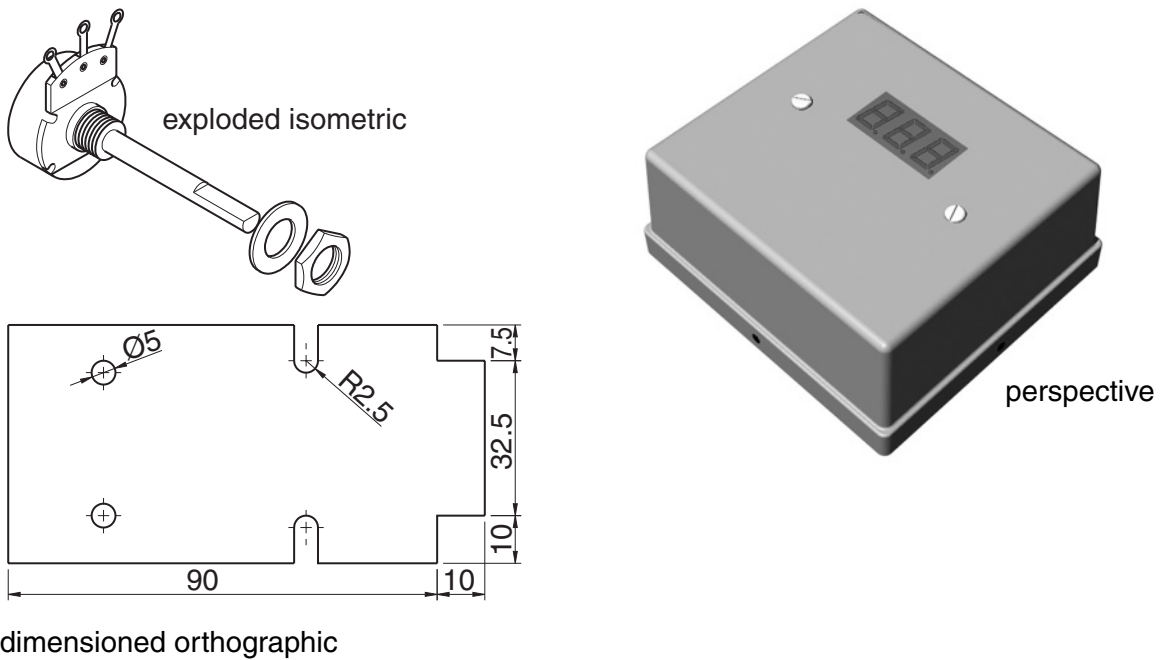

Fig. 2
- (a) Different styles of drawing can be produced using CAD as shown in Fig. 2.